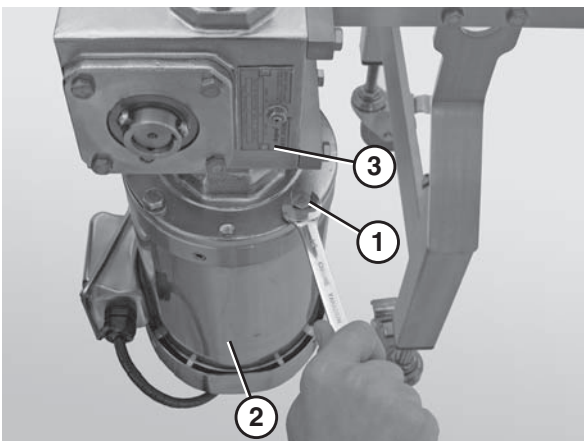

Figure 59
3. Remove the bolts (**Figure 59, item 1**) that connect the motor (**Figure 59, item 2**) to the gear reducer (**Figure 59, item 3**) and remove the motor (vertical mount drive package shown).